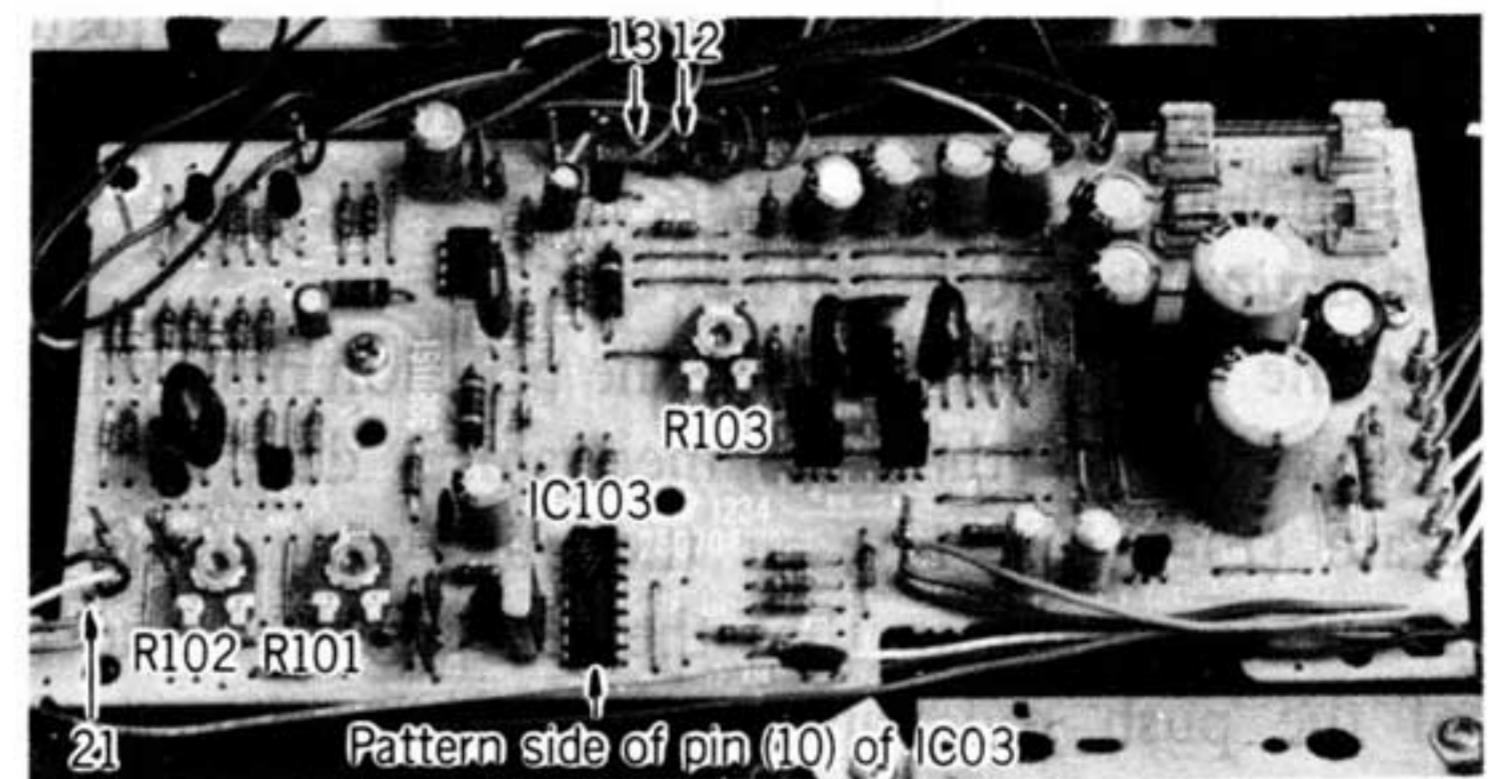

Fig. 15
- (1) Set the SPEED SELECT knob to the speed which is 45 r.p.m.
- (2) Connect terminal (21) to the (+) side of the voltmeter, and Pin No. 10 of IC03 shown in Fig. 15 to the (-) side.
- (3) Turn R101 gradually until the stripes of the strobo are stationary.
Use the pattern side of the PWB shown in Fig. 15 when connecting the voltmeter to pin(10) of IC03.
When the motor or the control printed wiring board is replaced, adjust the difference between the two phases of the motor drive-coil using R103 shown in Fig. 15.